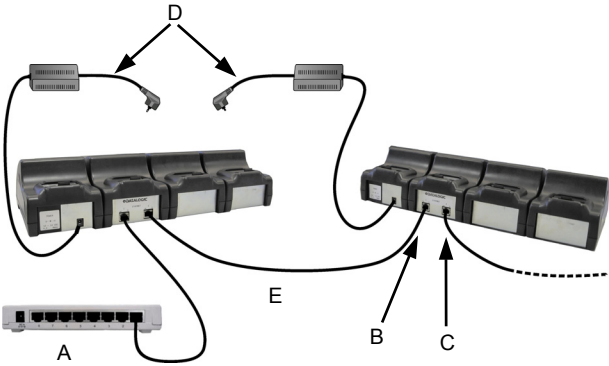

Figure 4 - Daisy chaining Ethernet Connection
1. Connect the first Ethernet cradle to power and to the Ethernet Switch as shown on Figure 4.
4. Connect additional cradles as shown in Figure 4.